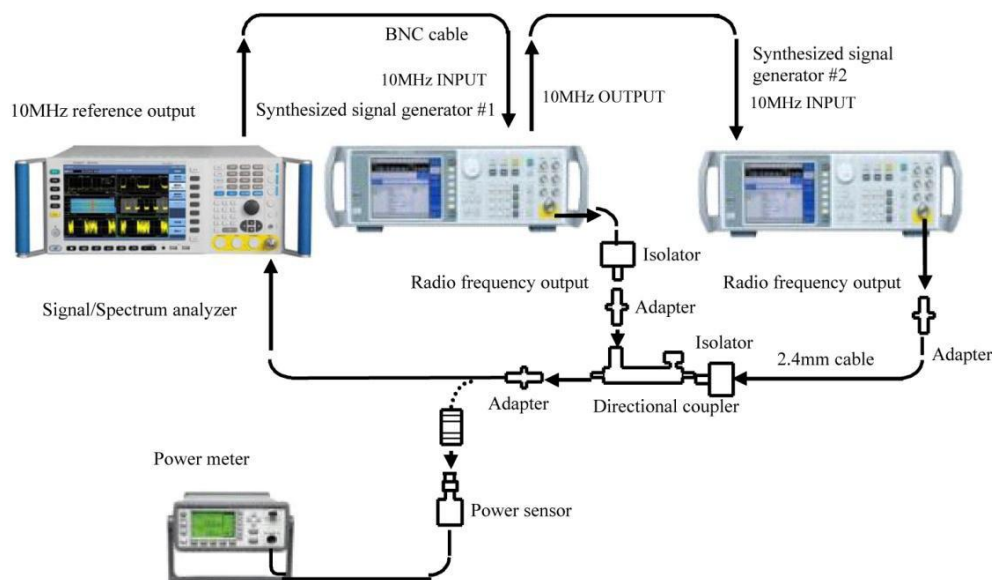

Fig. 8.17 Schematic diagram of TOI distortion test (4GHz - 50GHz)
- 19) Connect the instrument as shown in Fig. 8.17 and use the MMW directional coupler to replace the RF directional coupler in Fig. 16.